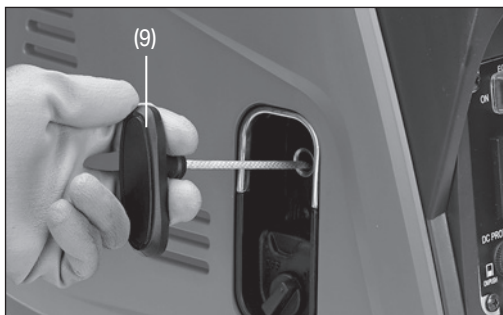

Fig. 11
7. Slowly pull on the recoil starter (9) until resistance is felt, then pull it out rapidly to start the engine. (Fig.11).
Important: You may need to do this several times. (Fig.11).